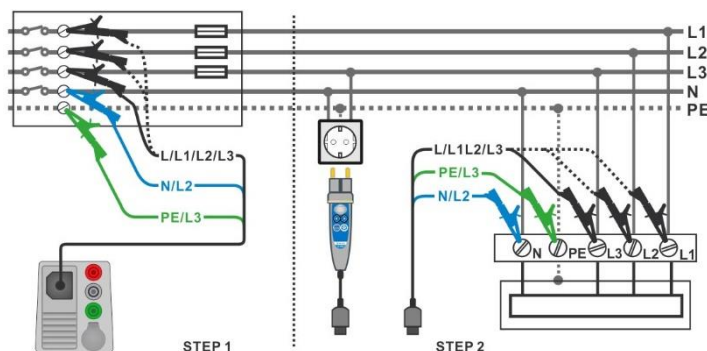

Figure 7.68: Voltage drop measurement – connection of Plug commander and 3-wire test lead
- › Connect 3-wire test lead to the origin of electrical installation, see **Figure 7.68**.
- › Connect 3-wire test lead or Plug commander to the tested points, see **Figure 7.68**.